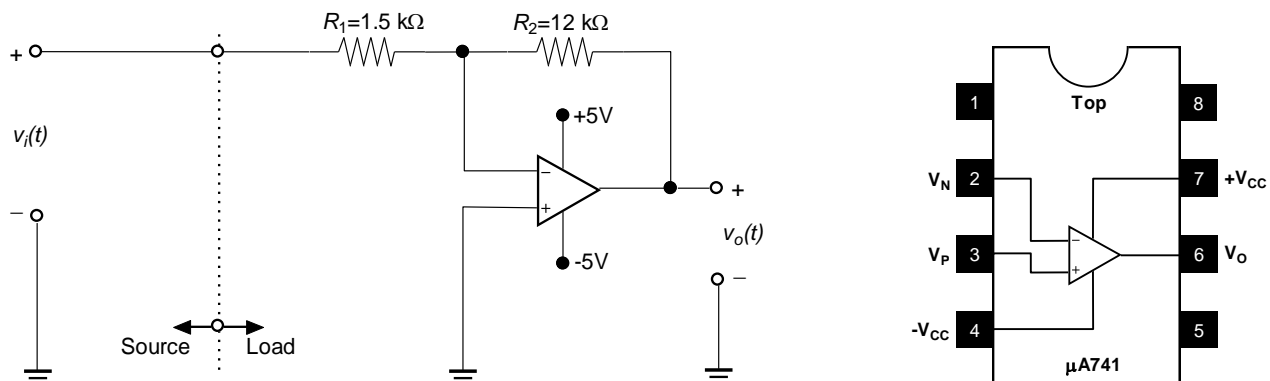

Fig. 3 Inverting amplifier circuit and μ A741 OP-AMP pin diagram.
- The op-amps used in the experiment are μ A741 models (see Fig. 3).
- Find an expression for the closed-loop voltage gain $A_v = \frac{V_o(t)}{V_i(t)}$ of the inverting amplifier of Fig. 3 for an ideal op-amp in terms of R_1 and R_2 and give its numerical value for $R_1 = 1.5 \text{ k}\Omega$ and $R_2 = 12 \text{ k}\Omega$ as in Fig. 3.
- Use two DC power supplies, one set to $+5 \text{ V}$, the other to -5 V , to power the op-amp as shown in Fig. 3. (Textbook, section 4-1, page 158).
- Complete the inverting amplifier circuit as shown in Fig. 3.